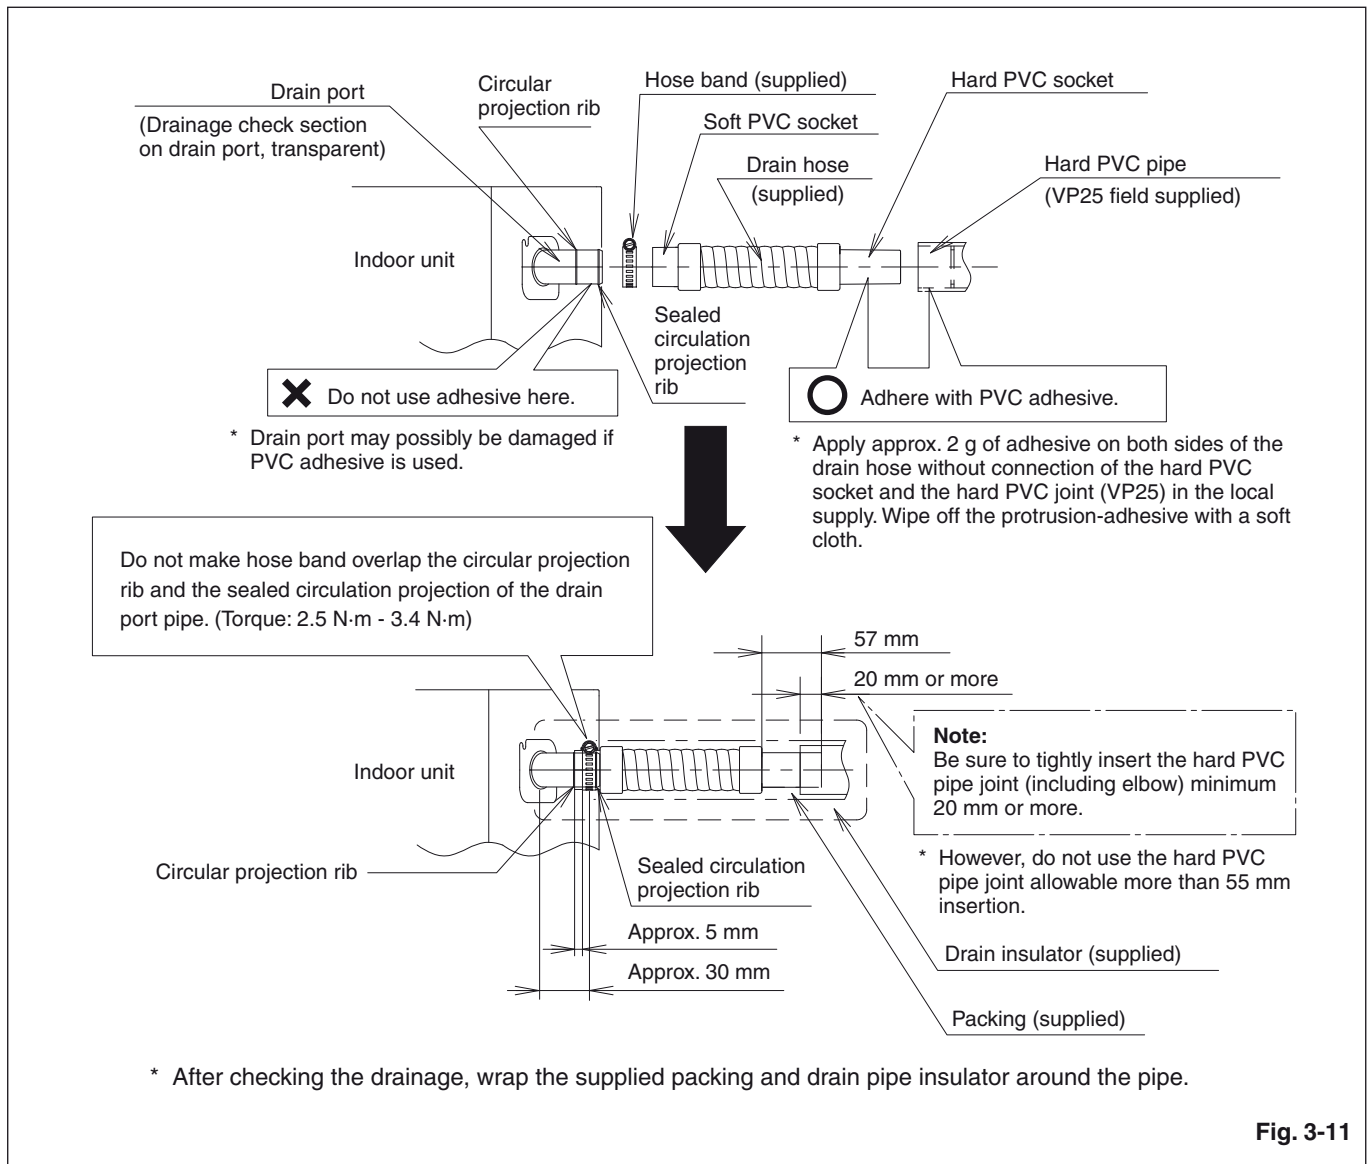

Fig. 3-11
- 3) Move the hose band so that the center position of the hose band can be placed approx. 30 mm away from the external plate of the indoor unit. (Fig. 3-11)